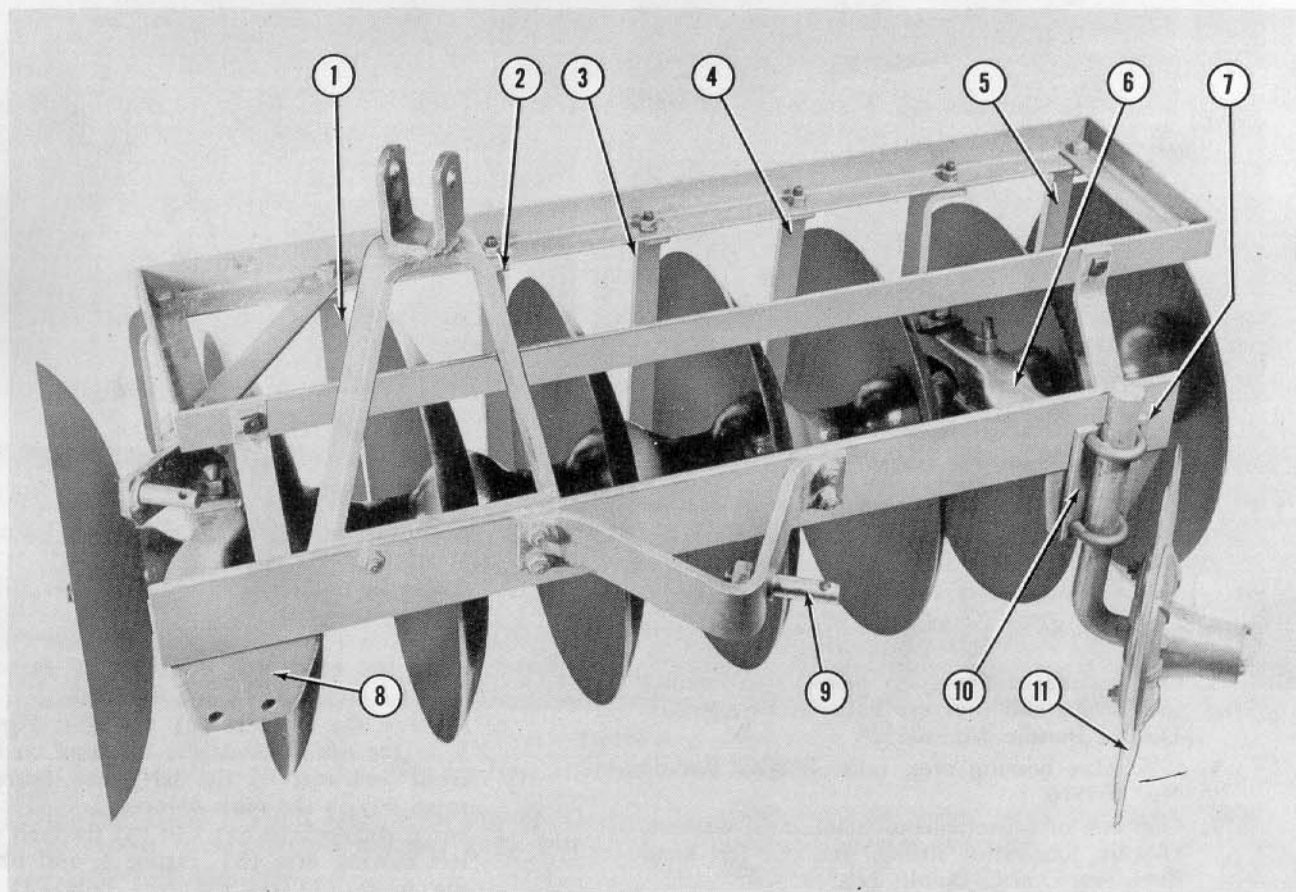
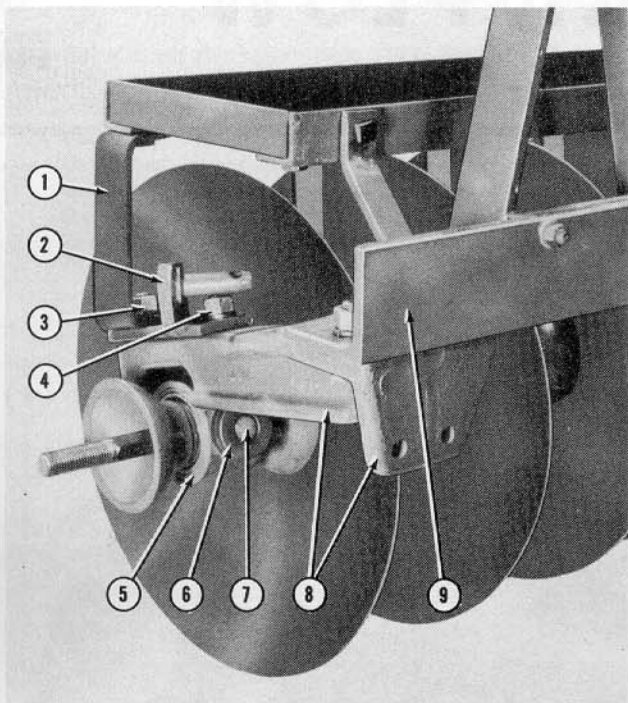
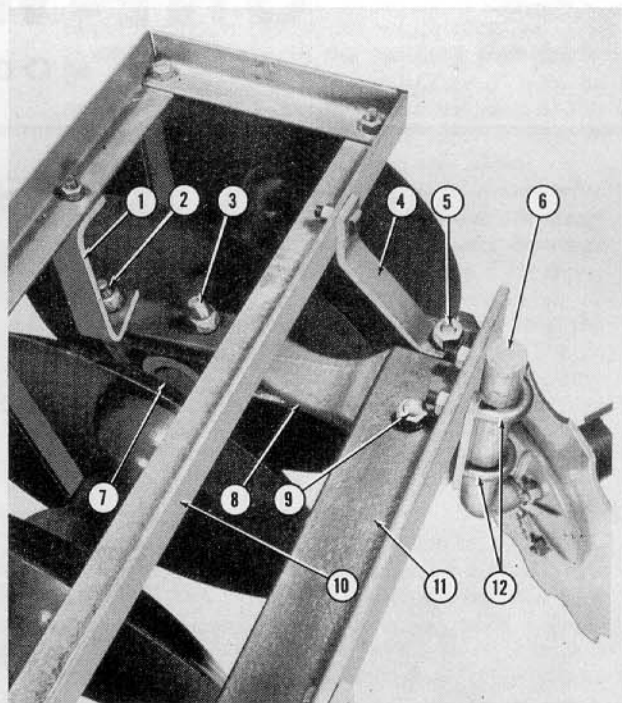
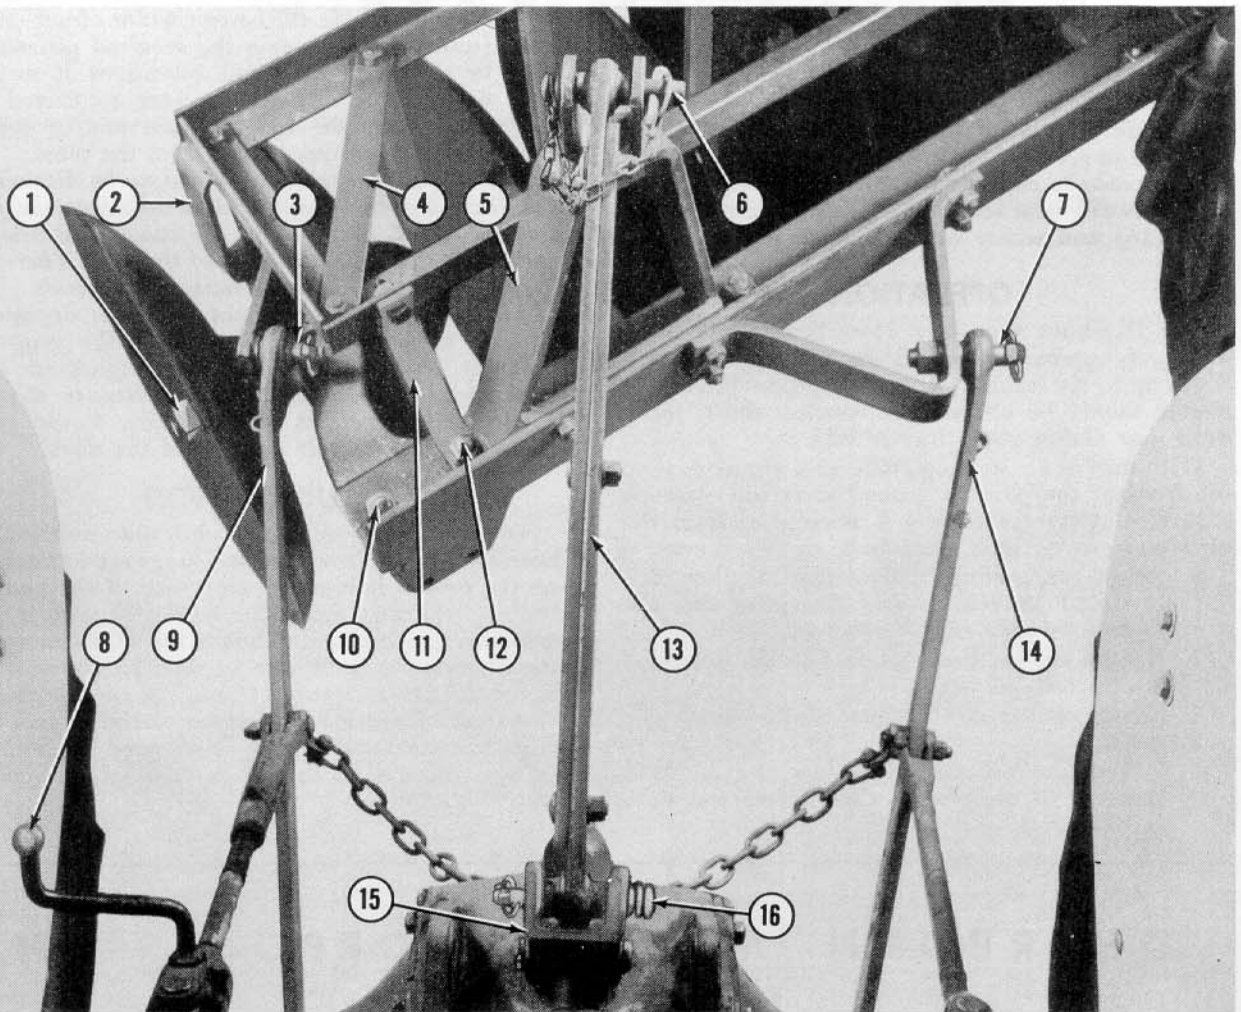

Figure 1
Figure 2
Figure 3
Figure 4
1. Position the disc gang as shown in Figure 1, and attach the bearing arms (6) and (8) as follows:
- a. Position the eyebolts (3) and (4), Figure 2,
- a. so the eye (6) fits over the trunnion (7) on the front and rear of the right hand bearing spool (5).
- b. Insert the eyebolts (3) and (4) through the bearing arm (8), Figure 2, place the hitch pin plate (2) on the bolts as shown and place the brace (1) on the rear eyebolt. Secure with lockwashers and nuts.
- c. Position the eyebolts (2) and (3), Figure 3, so the eye fits over the trunnion on the front and rear of the left hand bearing spool (7) in the same manner.
- d. Insert the eyebolts (2) and (3) through the left bearing arm (8), Figure 3, and place the brace (1) on the rear bolt (2) as shown. Secure eyebolts with lockwashers and nuts.
2. Insert one lubrication fitting in the rear trunnion on each bearing spool (5), Figure 2, and (7), Figure 3.
3. Attach the left bearing arm (8), Figure 3, to the left end of the main frame (11), with the bolts (5) and (9). Place a brace (4) on the bolt (5) and secure bolts (5) and (9) with lockwashers and nuts.
4. Bolt the right bearing arm (8), Figure 2, to the right end of the main frame (9) with the two bolts (10) and (12), Figure 4. Insert the bolt (12), Figure 4, through the right side of
- the "A" frame (5) and position the brace (11) as shown. Secure bolts (10) and (12) with lockwashers and nuts.
5. Bolt the left hitch pin (9), Figure 1, in place on the main frame as shown.
6. Attach the coulter (11), Figure 1, to the left end of the main frame (11), Figure 3, with two U-bolts (12). Place the lock straps (7) and (10), Figure 1, on the U-bolts as shown and secure the U-bolts with lockwashers and nuts. Insert a lubrication fitting in the hole provided on the coulter bearing.
7. Bolt the left end of the weight frame (10), Figure 3, to the braces (1) and (4) as shown. Secure with lockwashers and nuts.
8. Bolt the right end of the weight frame to the braces (2) and (11) as shown in Figure 4. Secure with lockwashers and nuts.
9. Attach the cross brace (4), Figure 4, and the trash guards (1), Figure 1, to the weight frame
10. Attach the trash guards (2), (3), (4) and (5) as shown in Figure 1 and secure with the bolts, lockwashers and nuts provided.
1. Back tractor into position so the lower links (9) and (14) are aligned with the hitch pins (3) and (7), Figure 4.
2. Slip the left lower link (14), Figure 4, on the hitch pin (7) and secure with a linch pin as shown.
3. Attach the right lower link (9), Figure 4, to the hitch pin (3), using the tractor leveling crank (8) for alignment. Secure with a linch pin.
4. Disconnect the upper link (13), Figure 4, from the tractor and attach it to the "A" frame (5) with the pin (6) and linch pin.
5. From the tractor seat align the forward end of the upper link (13), Figure 4, with the tractor three-hole rocker (15) by moving the tractor forward or backward slightly. Insert the pin (16) and secure with the linch pin provided.
With the tractor leveling crank (8), Figure 4, raise the front of the plow to ground level and establish a furrow. After the furrow is established level the plow and proceed with the following adjustments.
After the first few hours of operation tighten the nuts on all bolts securely, especially the gang bolt nuts (1), Figure 4. Disc blades are high grade alloy steel and should never be cold rolled to sharpen. A satisfactory method of sharpening would be to grind the back surface or edge of the discs.